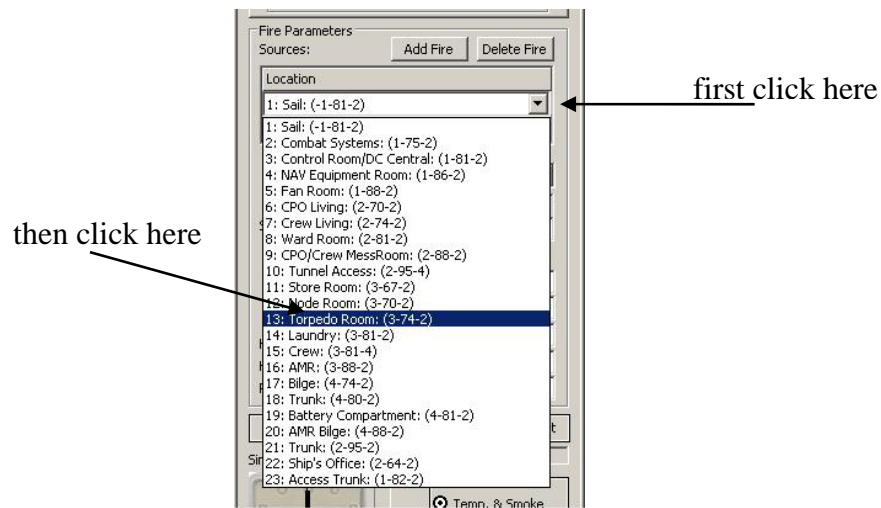

Figure 3.4 Selecting Fire Source
Step 4: Change the fire source location to compartment 13, Torpedo Room (Figure 3.4)